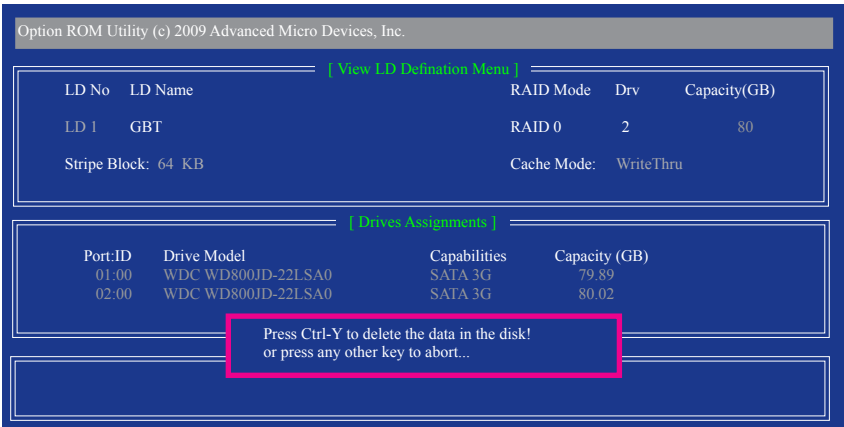

Figure 10
- The **View LD Definition Menu** will appear (as shown in Figure 10) showing which drives are assigned to this array. Press <Ctrl>+<Y> if you are sure to delete the array or other keys to abort.